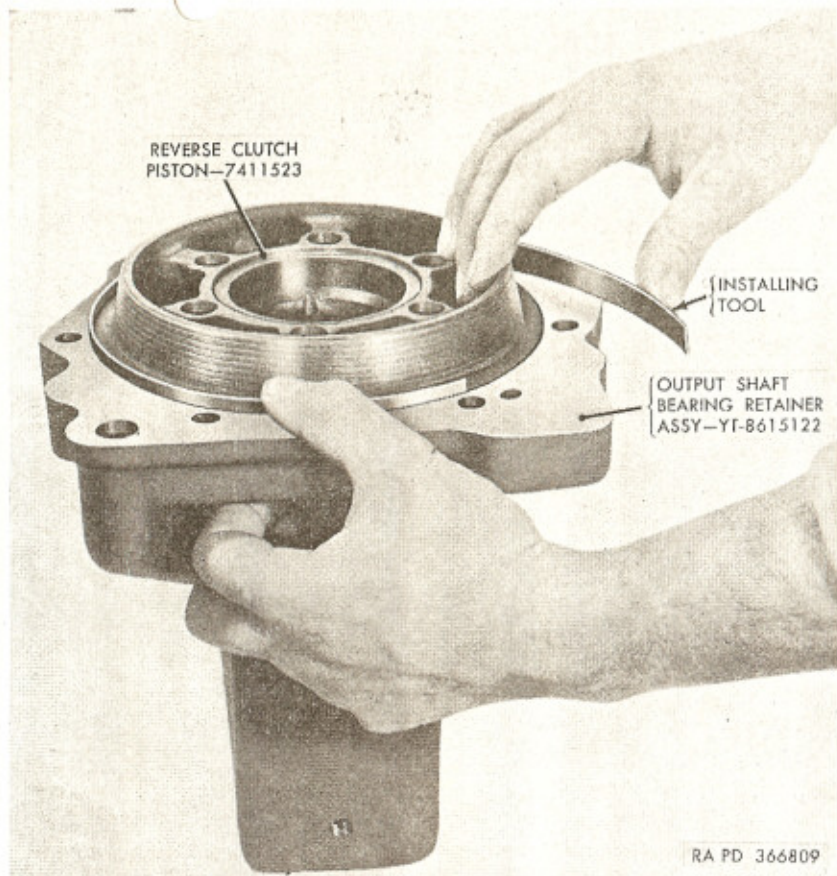

Figure 145. Using installing tool—A7950335 to install reverse clutch piston in output shaft bearing retainer.
i. Install reverse clutch piston (W) in output shaft bearing retainer (AA) as shown in (1) through (3) below.
- (1) With output shaft bearing retainer positioned on bench with large end up, position reverse clutch piston (W) over retainer with dowel pin holes in piston *not* aligned with dowel pins in retainer. This prevents piston from entering far enough to damage outer seal.
- (2) Wrap installing tool—A7950335 (fig. 145) around piston and insert into bearing retainer between piston and retainer. Work tool down against ledge in retainer. This will provide a smooth surface inside the bearing retainer, permitting the piston outer seal to pass the ledge without interference or damaging the seal.